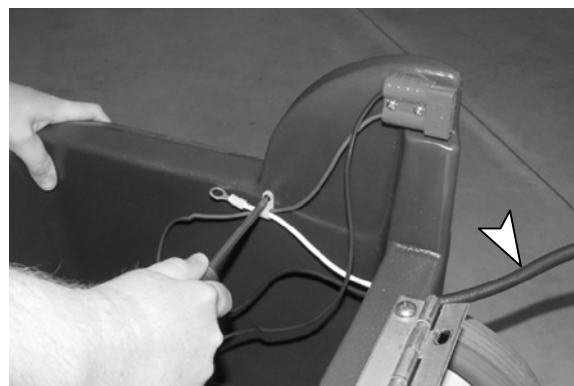

Fig. 4
5. Disconnect the battery wire harness from the battery compartment and dispose the old handle assembly (Figure 4).